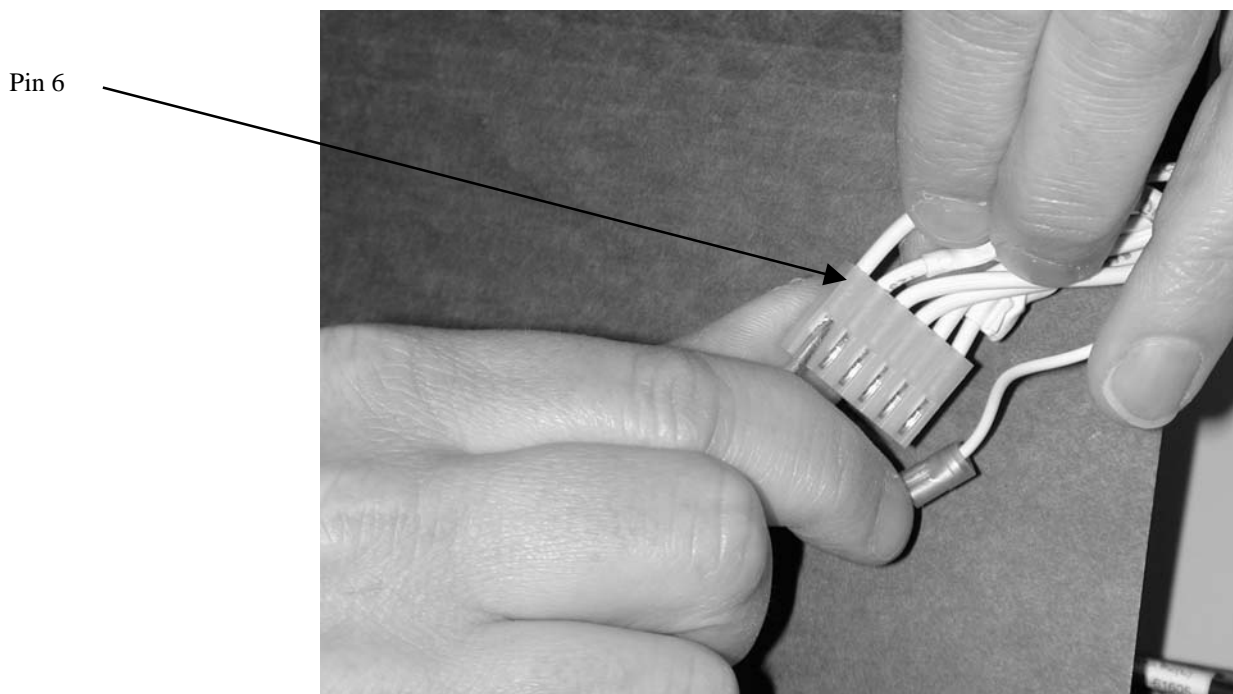

Figure 6. Removing the wire from pin six.
- Remove the wire from pin 6 of the 6-pin connector. See Figure 6 for connector orientation to locate pin 6.